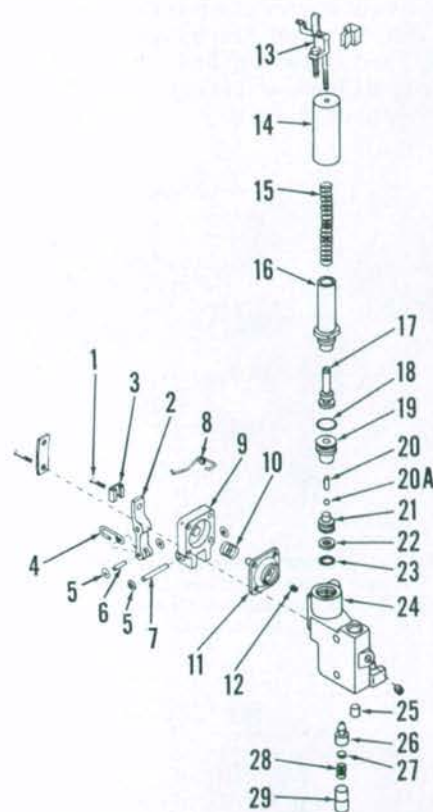

Fig. 238—Exploded view of servo valve assembly.
control adjusting screw (1—Fig. 238) out of pivot lever (2) until end of bolt is flush with inside of lever. Remove adjusting block (13), tube (14) and spring (15) from servo valve if not removed previously. Unhook diaphragm lever link (4) from control valve, remove valve mounting stud nut, and remove servo valve from top of pump.
227. SERVO VALVE. Refer to Fig. 238 for exploded view of servo valve. Unbolt and remove diaphragm cover (9). Use an Allen wrench to remove orifice plug (12). Thread a suitable screw into retainer plug (29) and remove retainer, spring (28), discs (27) and secondary relief valve (26). Remove guide (16) and spring support (17), then bump housing to remove plunger (20) and ball (20A). Use hooked wire to pull plunger guide (19) from bore then use needlenose pliers to pull ball valve seat (21) from bore.